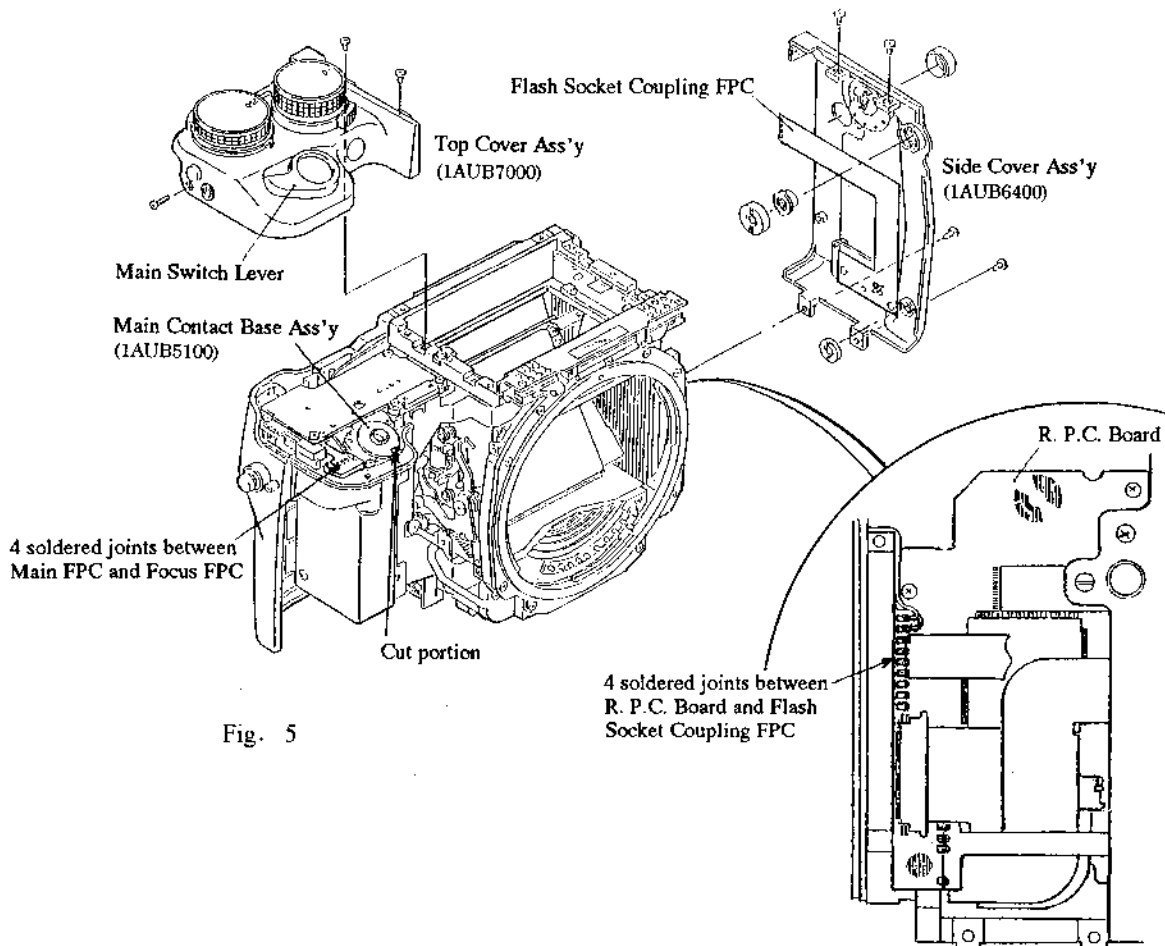

Fig. 5
- 2) Set the cut portion of the Main Contact Base Ass'y (1AUB5100) exactly in the direction of the front of the camera. (See Fig. 5)
- 1) Unsolder the 4 soldered joints between the Main FPC and the Focus FPC. (See Fig. 5)
- 1) Remove the F. Rail (1) Setscrews (61925522) × 3 and take off the F. Rail (1) (1AU77600) and F. Rail Friction Spring (1) (1AU77800).
- 5) Unsolder the 4 soldered joints between the R. P.C. Board and the Flash Socket Coupling FPC and remove the Side Cover Ass'y. (See Fig. 5)